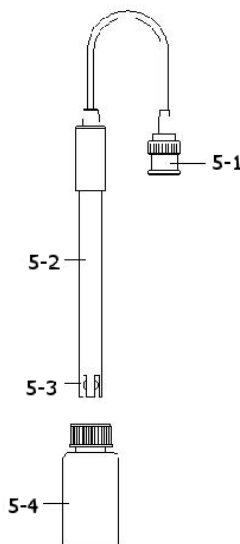

Fig. 2
" Probe Plug " ( 5-1, Fig. 2 ) into the " PH Socket/BNC
- 4) Hold the " Electrode Handle " ( 5-2, Fig. 2 ) by hand
and let the " Sensing head " ( 5-3, Fig. 2 ) immersed
**When not use the Electrode, it should immerse the " Electrode sensing head " ( 5-3, Fig. 2 ) into the " Protection bottle " ( 5-4, Fig. 2 )**
- 1) Prepare the pH Electrode ( optional ), install the " Probe Plug " ( 5-1, Fig. 2 ) into the " PH Socket/BNC Socket " ( 3-16, Fig. 1 ).
- 4) Hold the " Electrode Handle " ( 5-2, Fig. 2 ) by hand and let the " Sensing head " ( 5-3, Fig. 2 ) immersed wholly into the measured solution and little shake the probe. Display will show the PH value.